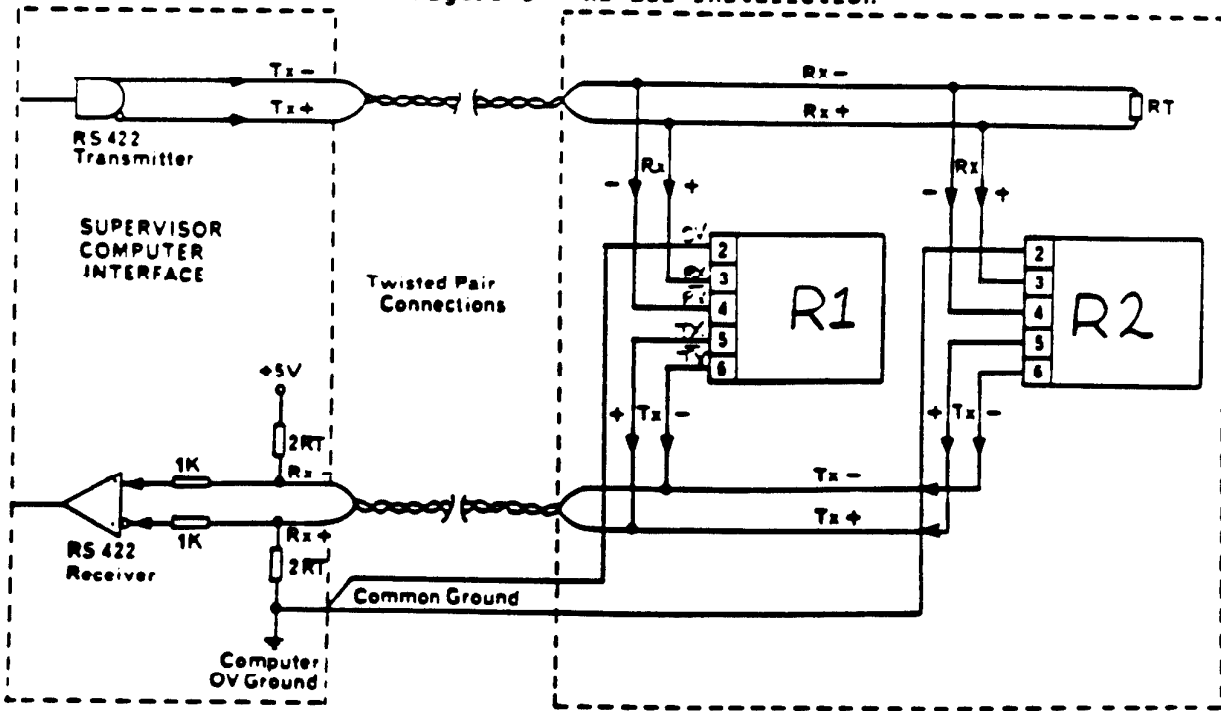

Figure 2 - RS 422 Installation
Figure 2 shows an RS 422 wiring diagram for a host with two recorders. The terminating resistor (RT) is installed on the last recorder on the cable. The purpose of this resistor is to reduce reflections along the transmission line. It is not necessary for short linelength installations. The value of RT for a typical 120 ohm transmission line is 220 ohms.